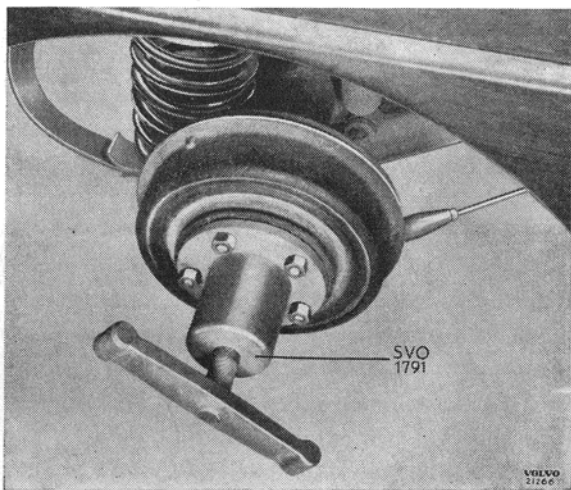
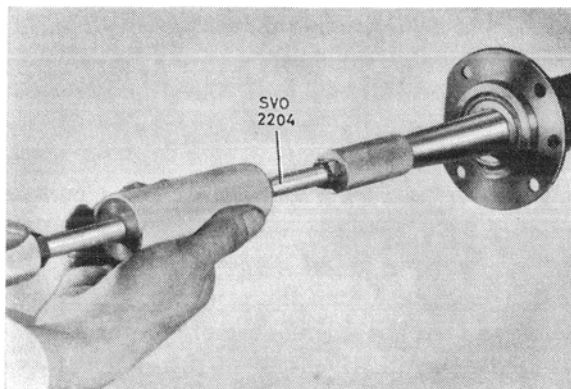

Fig. 2. Removing a wheel hub.
Fig. 3. Removing the axle shaft.
1. Remove the wheel and pull off the wheel hub as shown in fig 2. Use puller SVO 1446 A for hubs with four wheel bolts and SVO 1791 for hubs with five bolts. Remove the brake backing plate after having placed a wooden block under the brake pedal and loosened the brake line from the backing plate.
2. Pull out the axle shaft, fig. 3. Use puller SVO 2204 (SVO 1804 can be used on rear axles on which the gears can be removed.)
1. Remove the wheel and pull off the hub as shown in fig. 2. Use puller SVO 1446 A for hubs with four wheel bolts and SVO 1791 for hubs with five wheel bolts. Remove the brake backing plate after having placed a wooden block under the brake pedal and loosened the brake line from the backing plate.
2. Pull out the axle shaft as shown in fig. 3. Use tool SVO 2204 (SVO 1804 can be used on rear axles on which the gears can be removed). Check and replace the seal ring if necessary.
2. Lift off the rear wheels and remove the rear axle nuts (2).
3. Pull off the rear wheel hubs together with the brake drums. Use puller SVO 1446 for hubs with four bolts and SVO 1791 for hubs with five bolts, fig. 2. (The handbrake should be released and the brake shoes backed up if necessary).
5. Remove the four bolts (48) for the brake backing plates. Make sure that the shims are not lost or damaged.
6. Pull out the axle shafts (11) with tool SVO 2204 (SVO 1804 can be used for rear axles on which it is possible to remove the gears) and lift them clear. Fig. 3.
7. Disconnect the propeller shaft from the pinion flange (21).
8. Loosen the bolts (13) retaining the rear axle gear housing (14) and lift this off.